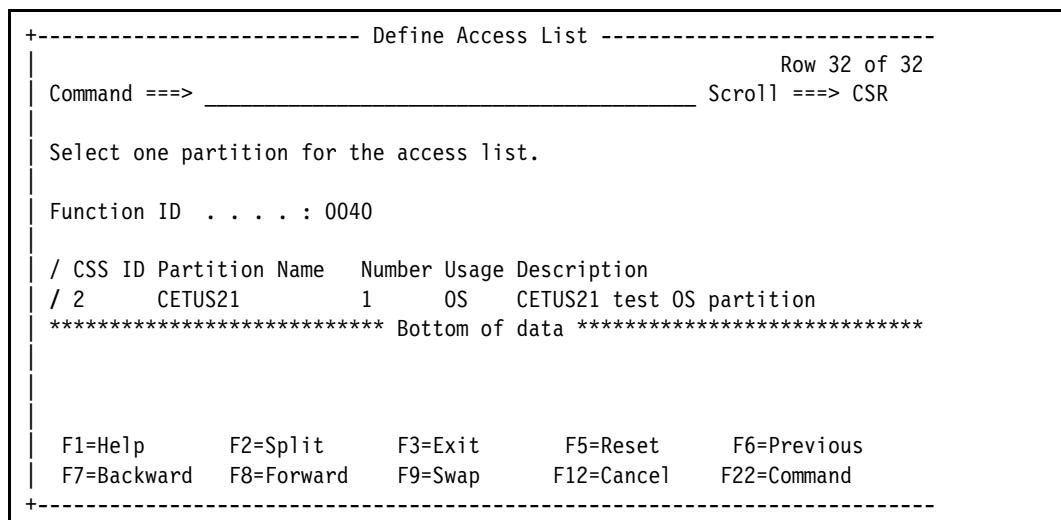

Figure 15-5 Define Access List: Selecting partition for Function access, ISM
- Select the required Access LPAR for Function access list. In our example, we use LPAR CETUS21 (OS). Press **Enter** (Figure 15-5).